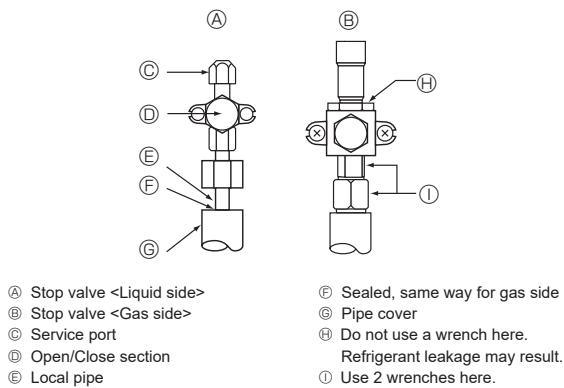

Fig. 4-5
- ③ Charge hose
- ④ Service port
4.4. Refrigerant pipe airtight testing method (Fig.4-5)